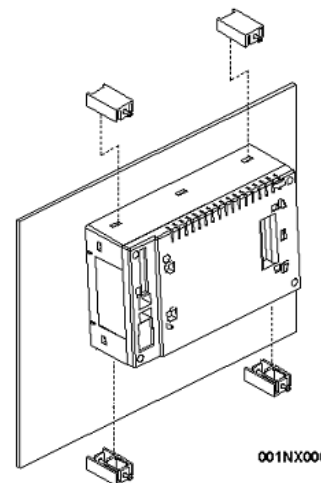
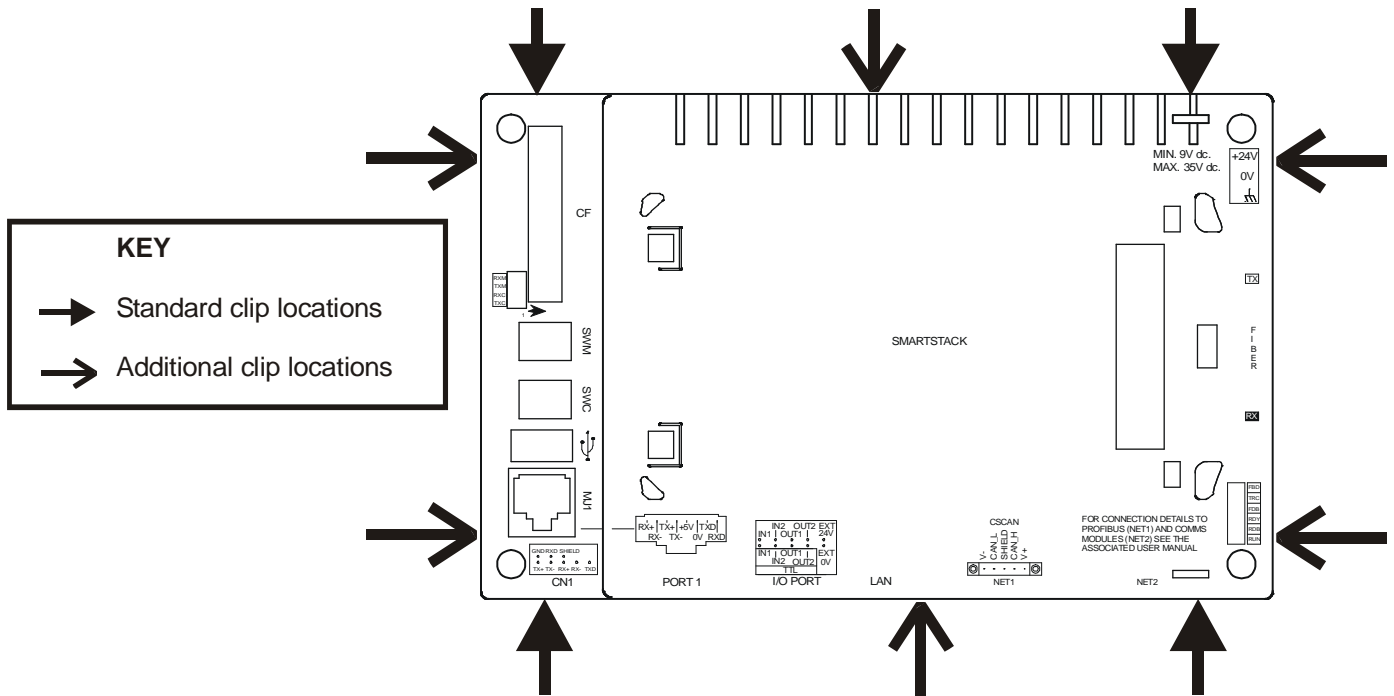

Figure 3 – Four Standard Mounting Clips
Figure 4 – Locations for 10 Mounting Clips for Optimum Seal Against Leaking
- II. Place the OCS in the panel cutout. Secure the unit as shown in **Figure 3** using the four (4) supplied mounting clamps. **Figure 4** shows the possible clamping locations (10 possible), and the locations recommended for most applications.
Figure 4 shows locations for four standard mounting clips.